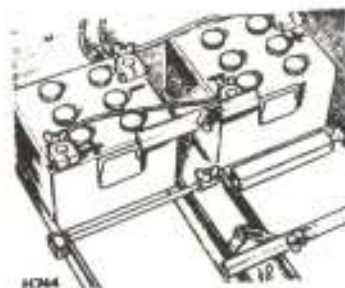

Fig. 102 Radio batteries, 24 volt models
- (2) **Radio batteries.** Two 12 volt batteries connected in series giving 24 volts output are used for the radio system. They are housed in the body beneath the radio table and are protected by a metal cover. See Fig. 102.